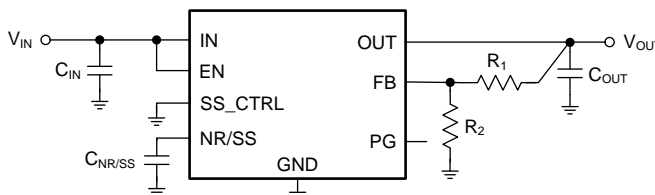

Figure 38. Adjustable Operation
The output voltage of the TPS7A9201 can be adjusted from 0.8 V to 5.2 V by using a resistor divider network as shown in Figure 38.
(1) R₁ is connected from OUT to FB; R₂ is connected from FB to GND; see Figure 38.